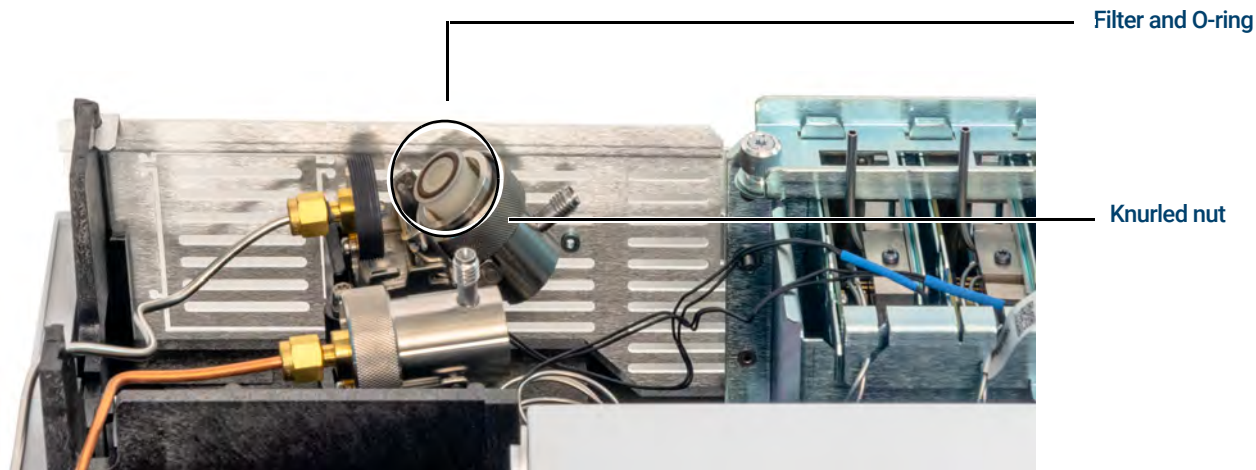

Figure 35. Slide trap assembly to expose the filter
- 5 Slide the trap assembly back from the guided mounting bracket and tilt up to expose the filter as shown in **Figure 35**.